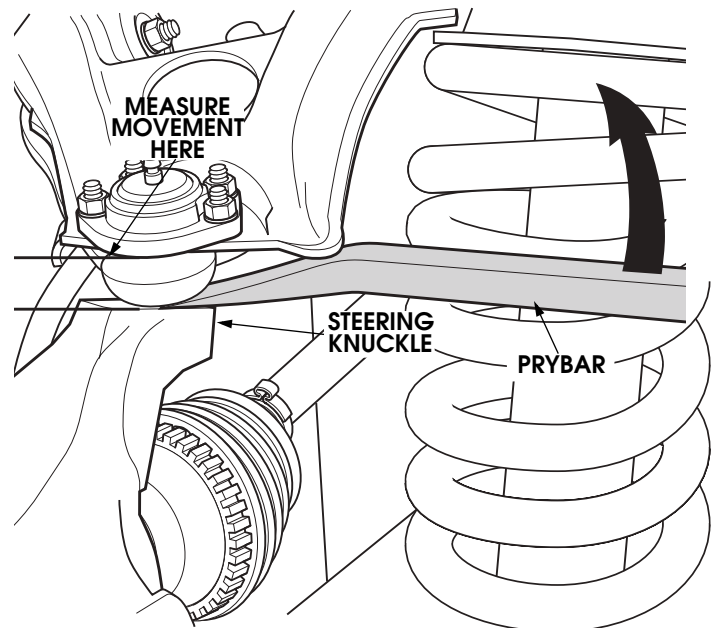

Figure 9-5: Upper Ball Joint Wear Check
1. With the vehicle on the ground (being careful not to damage the boot), place the tip of a prybar between the steering knuckle and the ball joint boot (Figure 9-5).